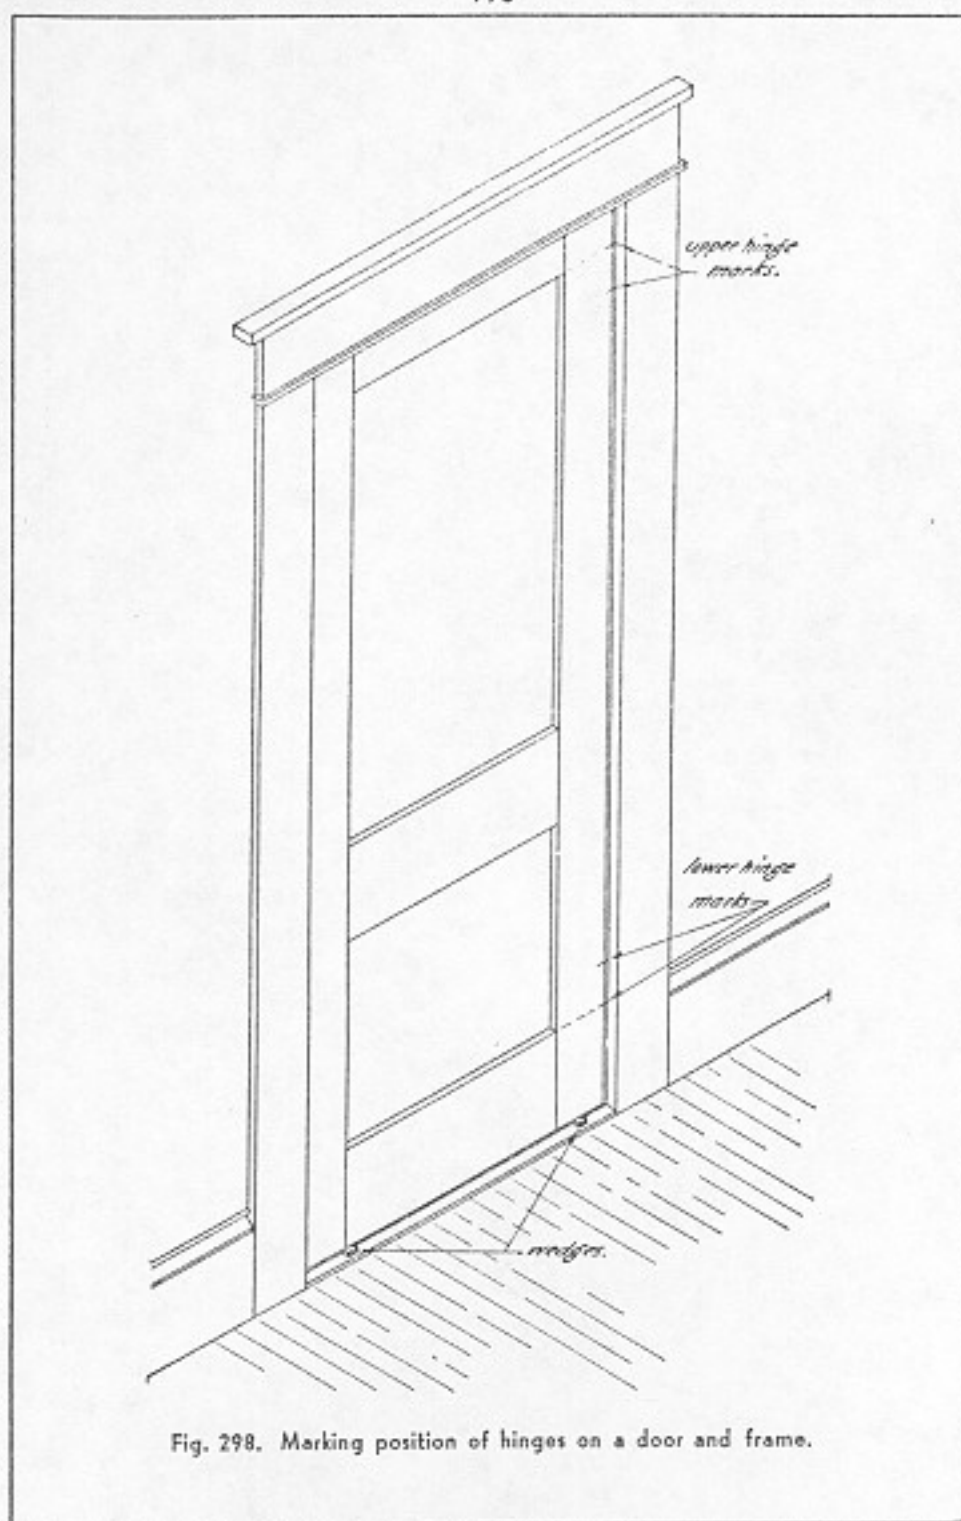

Fig. 298. Marking position of hinges on a door and frame.
upper one is just below the upper rail and the lower one just above the lower rail (Fig. 298). When hinging the lid of a box or chest, the hinges are placed so that the distance from the hinge to the edge of the box is equal to the length of the hinge.
6. The door is placed in its opening, and wedges are driven under it so that its upper edge is pressed firmly against the frame. The position of the hinges on both door and frame is then marked (Fig. 298)